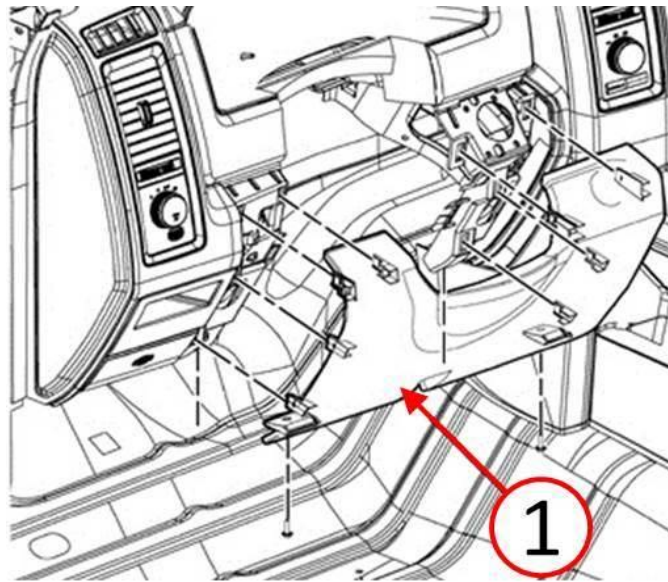

Fig. 8 Steering Column Cover Installation
19. Install the steering column cover (Fig. 8). Refer to the detailed service procedures available in DealerCONNECT> TechCONNECT under: Service Info> 23 - Body> Instrument Panel> COVER, Steering Column Opening> Installation.